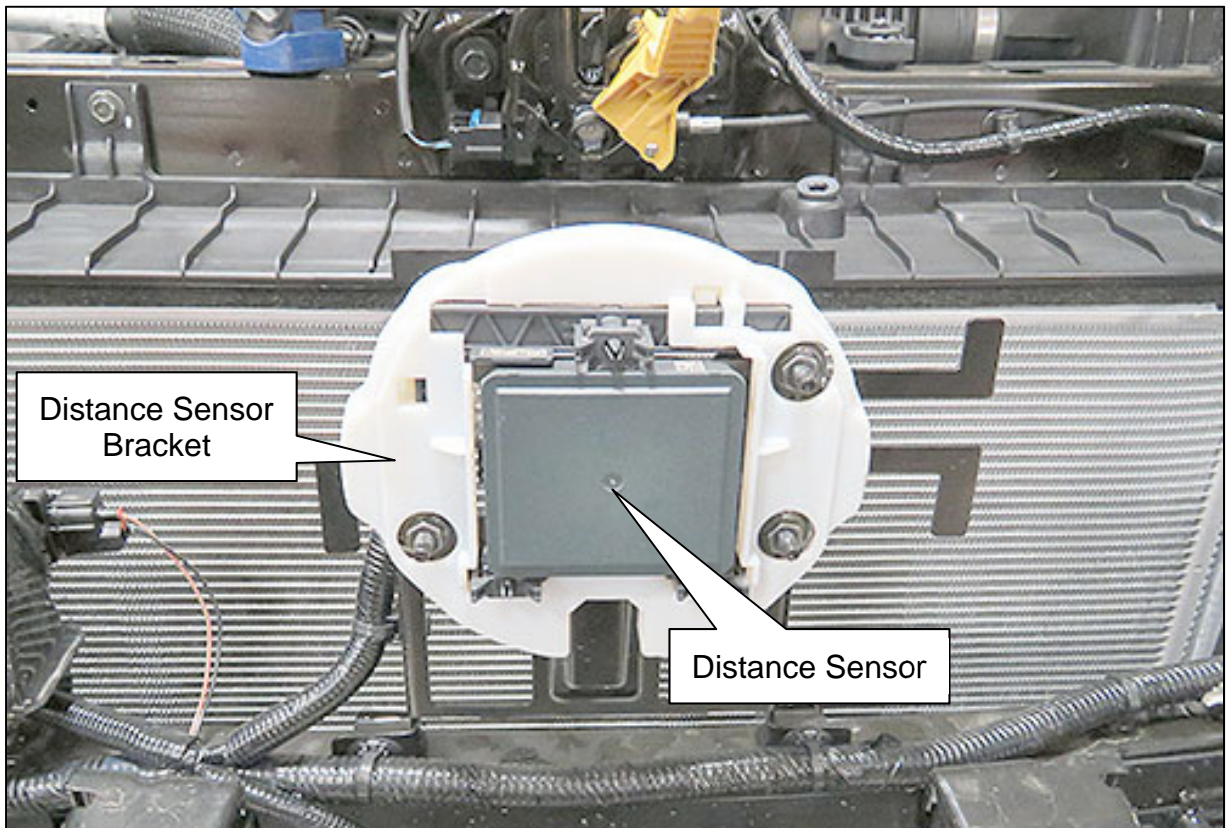

Figure 1
3. Snap the Distance Sensor Bracket (Figure 1) onto the Distance Sensor.